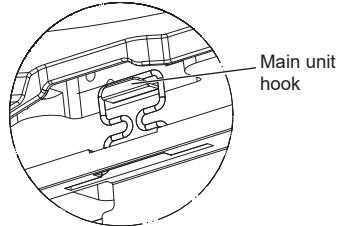

Fig. 6-6
- \* After tightening the screw, confirm that the two grille hooks (Fig. 6-6) are latched onto the hooks on the main unit.